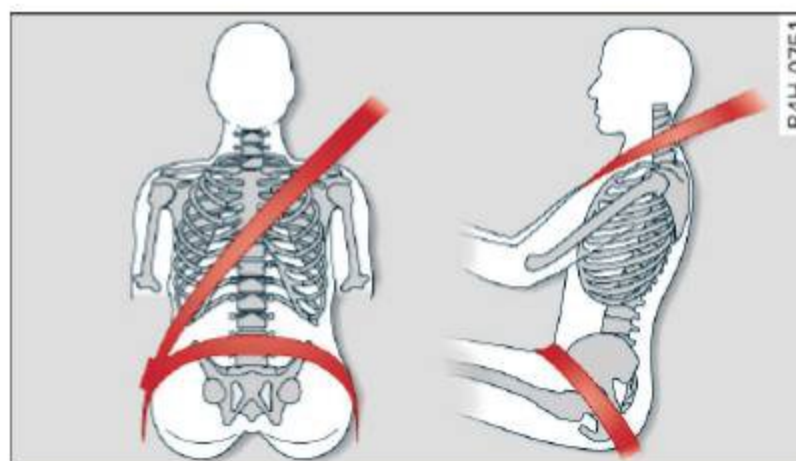

Fig. 129 Safety belt position
should always fit snugly ⇒ *fig. 129*. Pull on the belt to tighten if necessary.
- The lap belt portion of the safety belt must be positioned as low as possible across pelvis and never over the abdomen. Make sure the belt lies flat and snug ⇒ *fig. 129*. Pull on the belt to tighten if necessary.